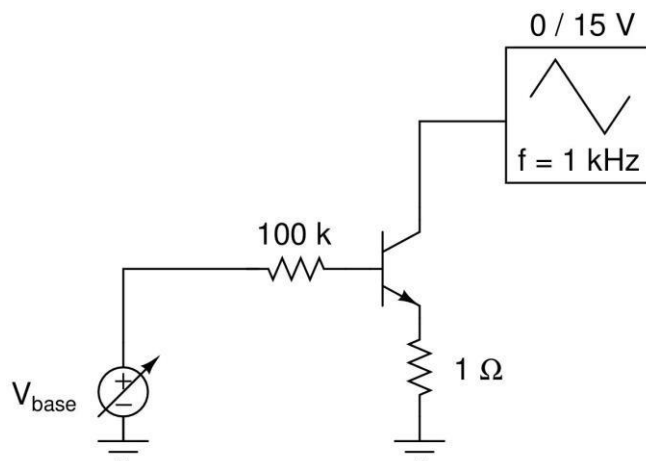

Fig.2: Test Circuit to measure I_C – V_{CE} .
11.4.2.1 Setup the circuit shown in Figure 2 and place the probe for channel #1 on the BJT collector (with the ground on the ground as shown in figure 2). Attach channel #2 to emitter terminal next to the 1 Ohm resistor. **Since the voltage across channel #2 is very small, you should set the oscilloscope probe to X1 mode (and change the attenuation setting in the channel mode options) to get a better measurement.**